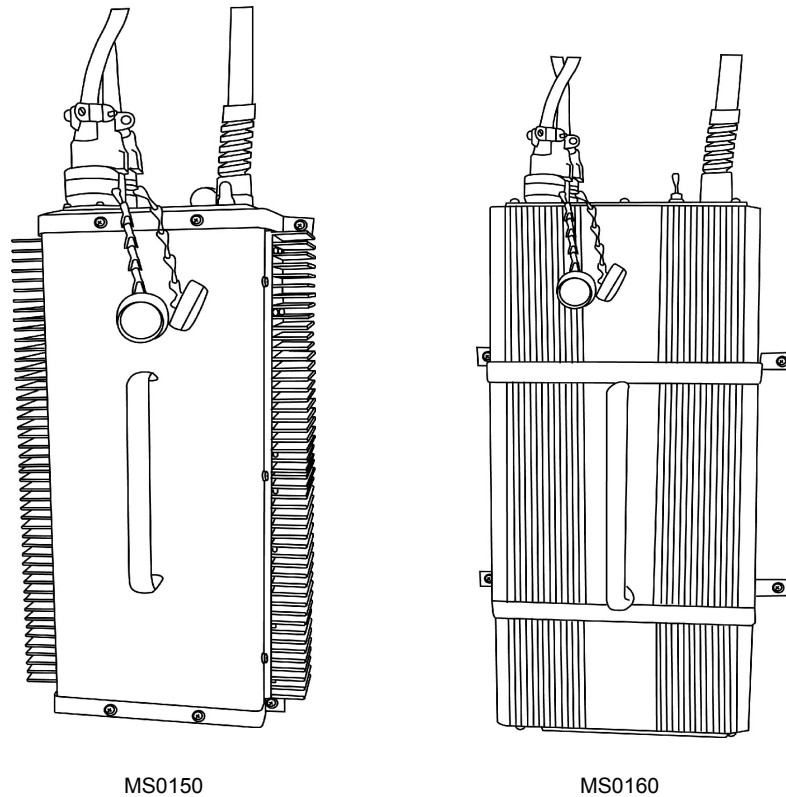

Figure 4. MBU Converter Styles.
**There are two styles of the MBU converter (see Figure 4). Before replacing the converter, compare the replacement unit to the one that is installed. If they are both the same style, no other parts are required. If they are different styles, you must also replace the two mounting brackets and drill new screw holes. See WP 0035 00 for parts information.**
To install a new style (MS0160) converter, place the mounting brackets at each end of the handle (see Figure 4). If necessary, with another person holding the converter and brackets in position on the mechanical room wall, mark the locations for the mounting screws. Drill four 9/64" holes approximately 3/4" deep, being careful not to drill all the way through the wall. Attach the converter to the wall using the brackets and four mounting screws. Connect the two 24 VDC output cables and plug the power cord into the designated 115 VAC receptacle. Place the converter power switch in the ON position.